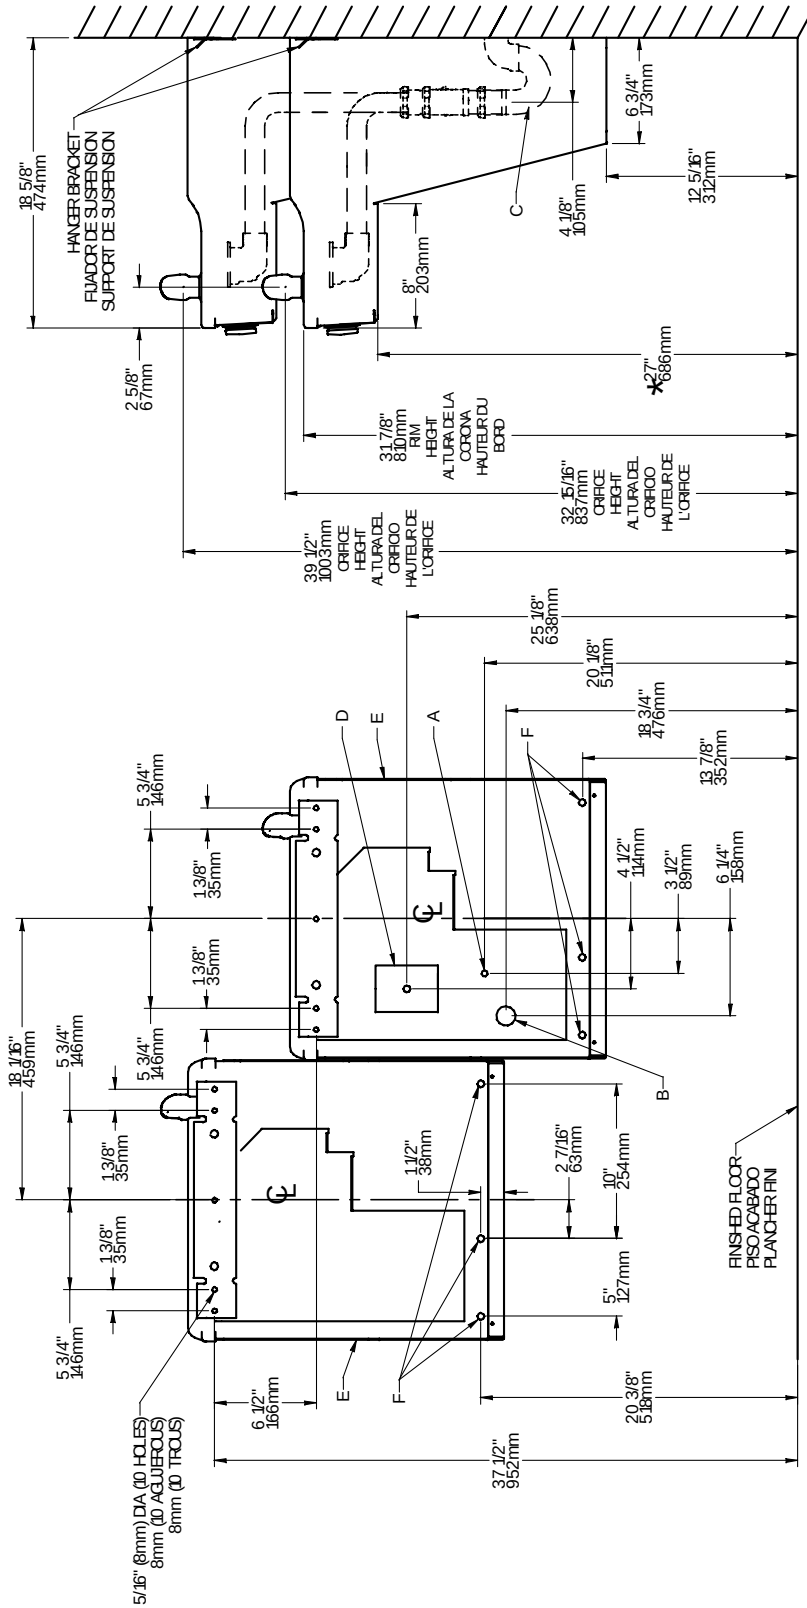

FIG. 2
- 1) Remove hanger bracket fastened to back of cooler by removing one (1) screw.
- 2) Mount the hanger bracket and trap as shown in Figure 2 or 3.
- 4) Hang the cooler on the hanger bracket. Be certain the hanger bracket is engaged properly in the slots on the cooler back as shown in Figure 2 or 3.
- 5) Loosen the two (2) screws holding the lower front panel at the bottom of cooler base and two (2) screws at the top (**Use torx bits sold separately**). Remove the front panel and set aside.